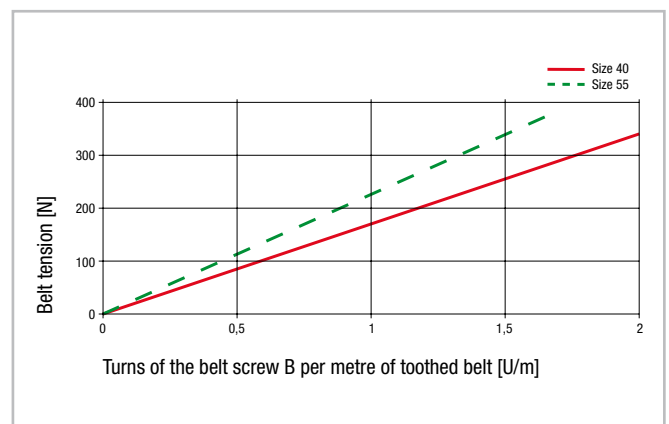

Fig. 63
2. Figures 63 and 64 opposite show how often the belt tensioning screws B must be turned until the desired deviation of the belt tension is reached.
2. Figures 63 and 64 show that the value by which the belt tensioning screws B must be turned to increase the belt tension by 110 N is 0.5 turns.